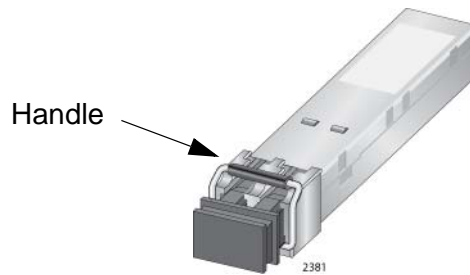

Figure 84. Handle on SFP+ Transceiver
2. Orient the SFP+ transceiver with the handle on top, as shown in Figure 84 on page 151.